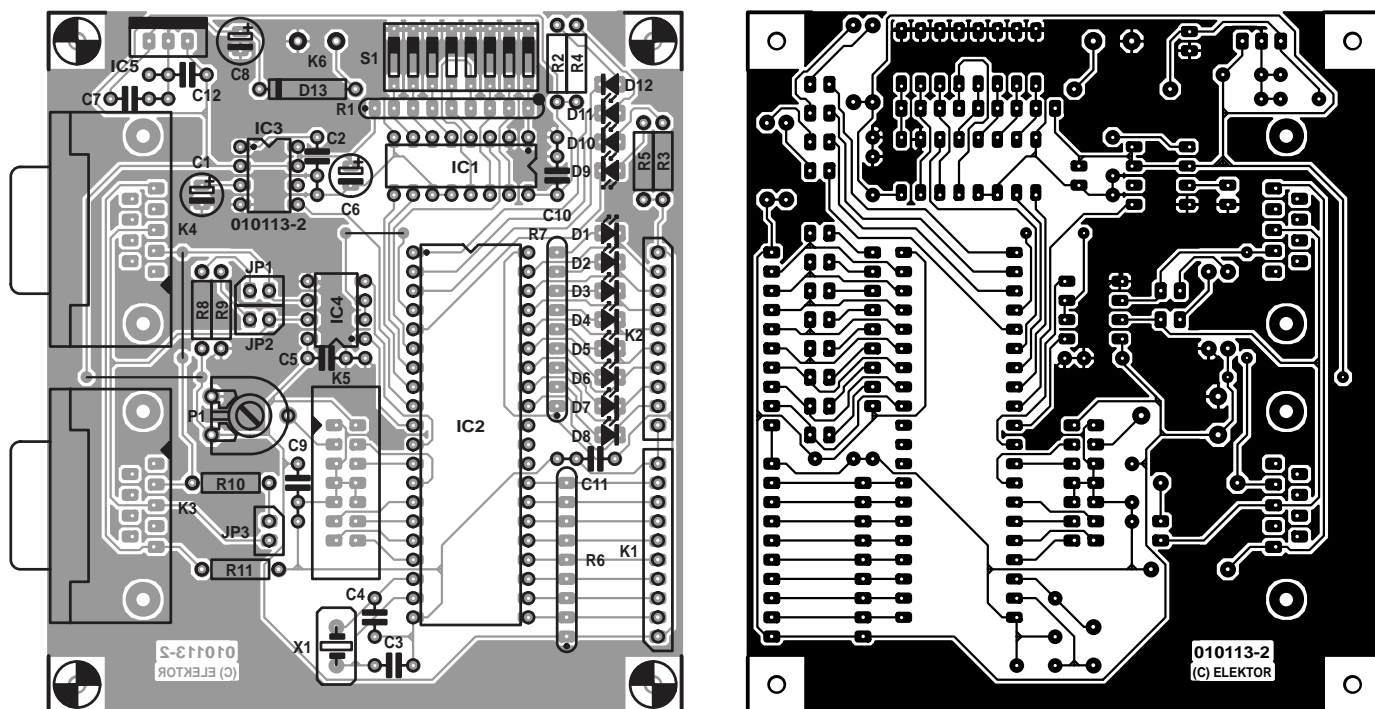

Figure 5. PCB of a terminal circuit. All connectors are at the edge of the board apart from K5.
**Figure 4** and **Figure 5** show the track and component layouts of the converter and terminal boards respectively. The first one especially is very compact and due to the small number of components it shouldn't take more than an hour to populate.